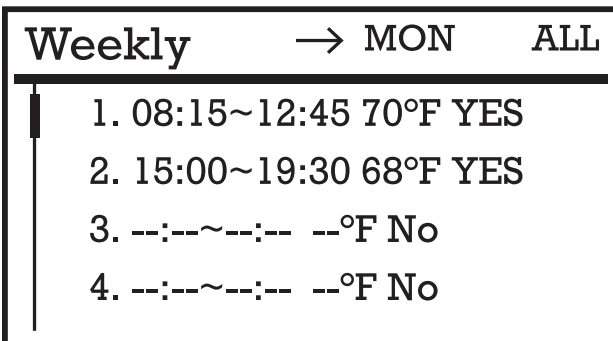

Figure 23
- In the **"WEEKLY SCHEDULE"** screen, you can begin with setting the operation times for Sunday. Press **ENTER** to highlight the hour and use the **SCROLL UP** and **SCROLL DOWN** buttons until you reach your desired hour of start time. Press **ENTER** again to highlight the minutes and use **SCROLL UP** and **SCROLL DOWN** until you've reached your desired minute of start. **SEE FIGURE 23.**